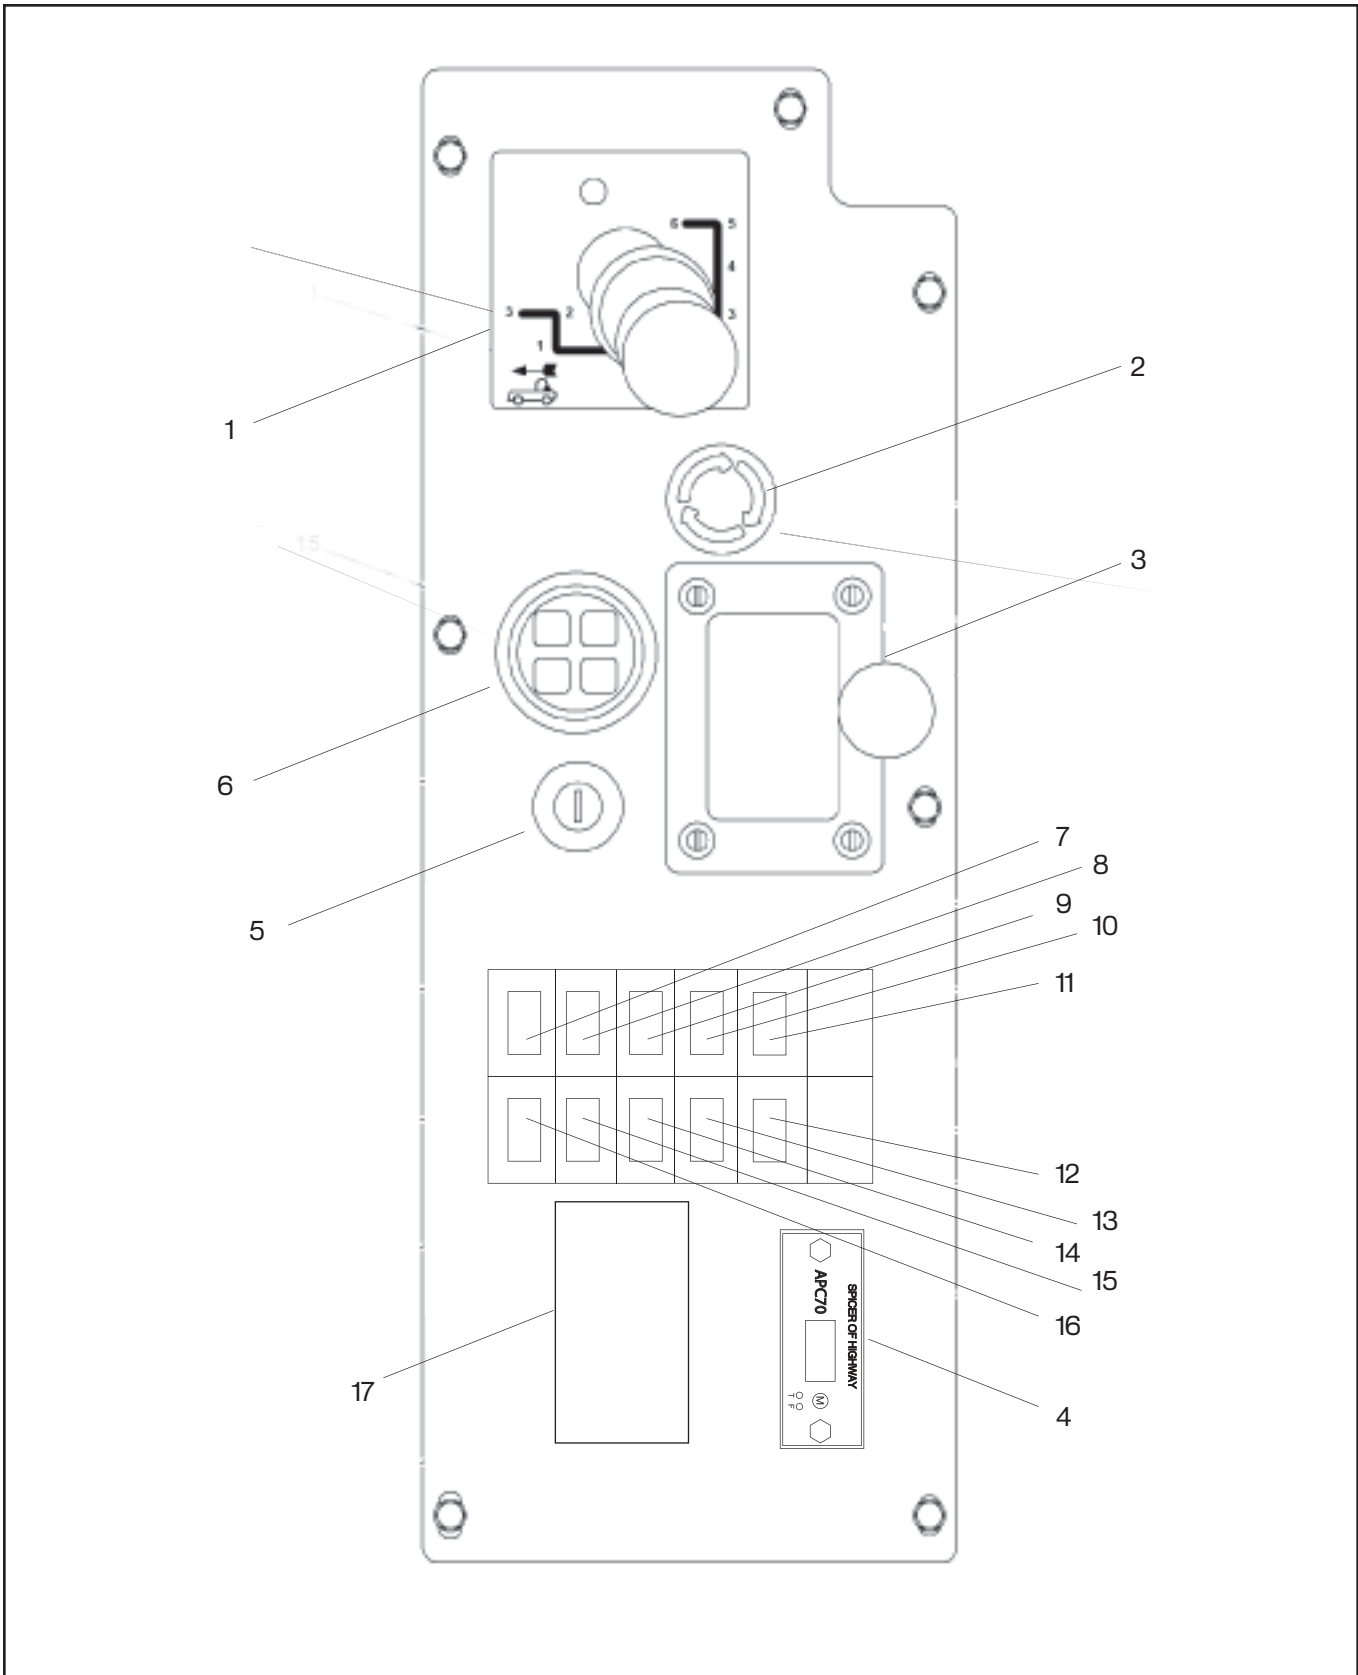

Figure 5-5. MAIN SWITCH CONTROL PANEL
**Table 5-5. MAIN SWITCH CONTROL PANEL (See Figure 5-5)**